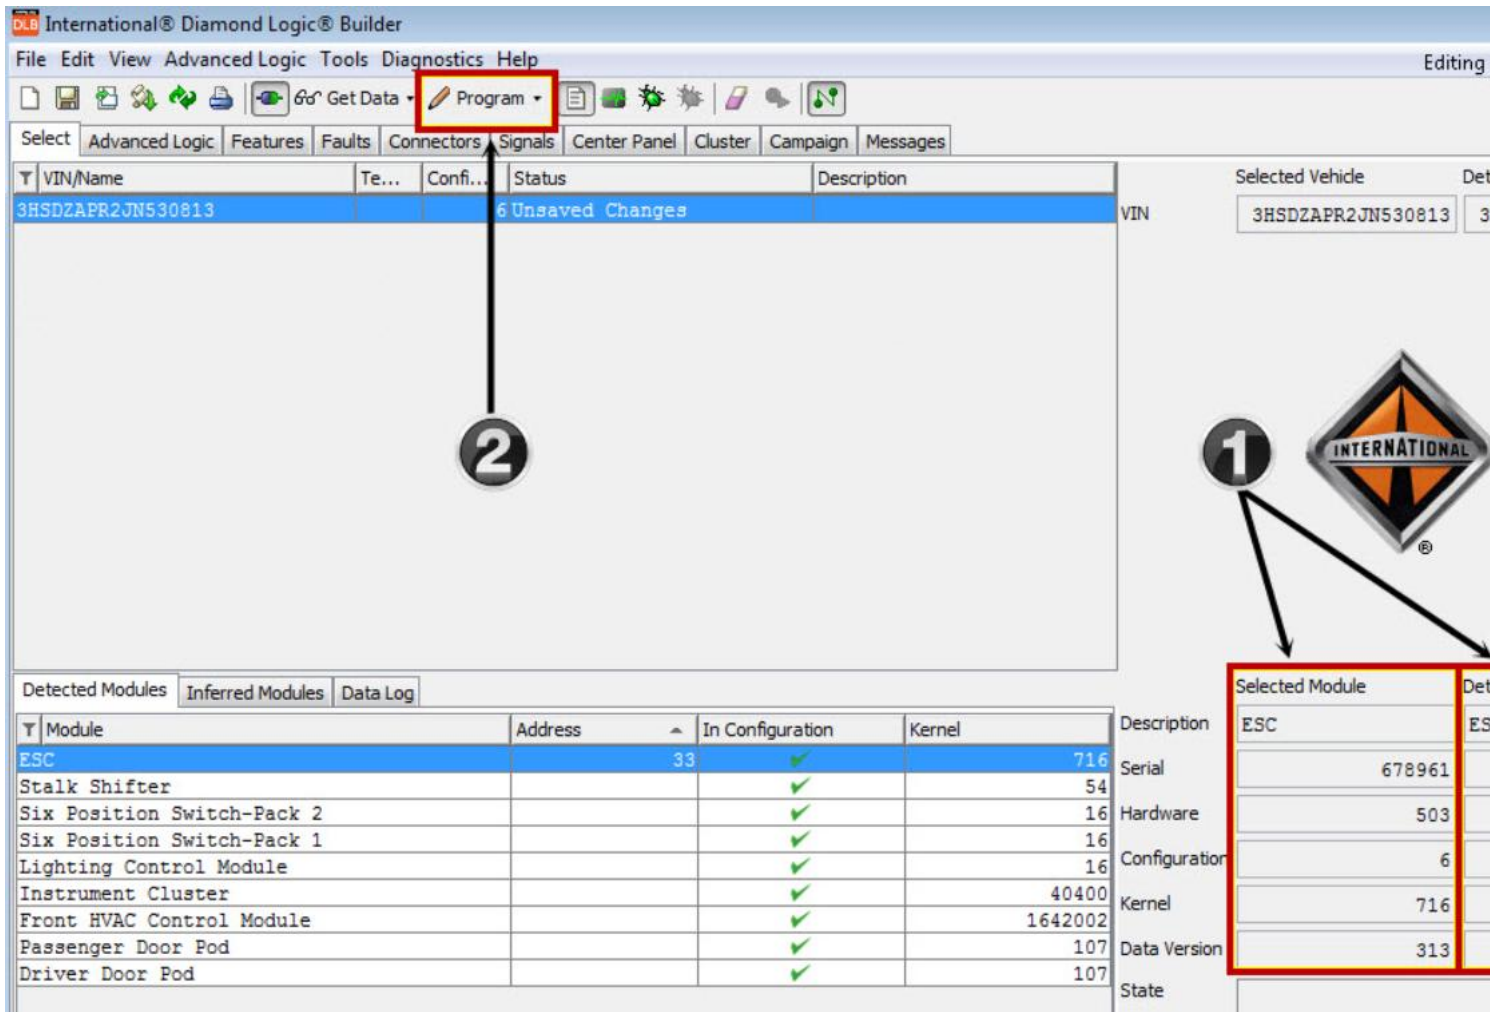

Figure 5: Program screen
14. Click on the program button (figure 5, Item 1) to update the ESC and apply the Efix.
15. Verify the Efix has taken by reviewing the kernel (figure 5, Item 2) to see if it has updated.